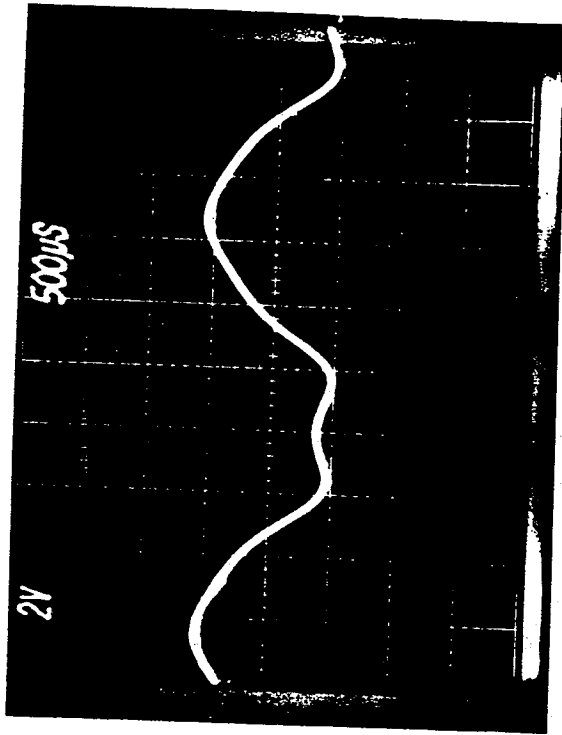

Figure 5-6
2. Check "VCA", "VCB", "VCC" and "VCD"; these waveforms should all appear the same as that shown in Figure 5-6.